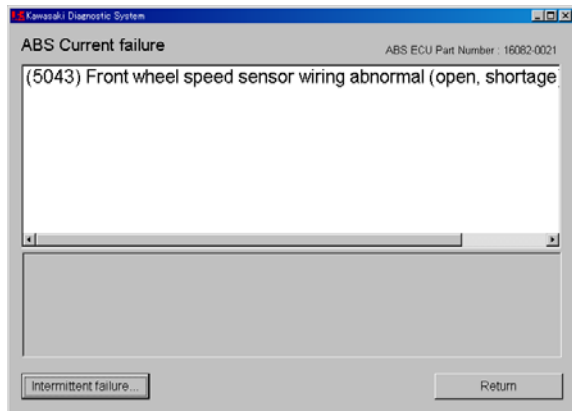

Fig.7-9 Current Failure - Code
- If a failure exists, it will be listed. Fig. 7-9